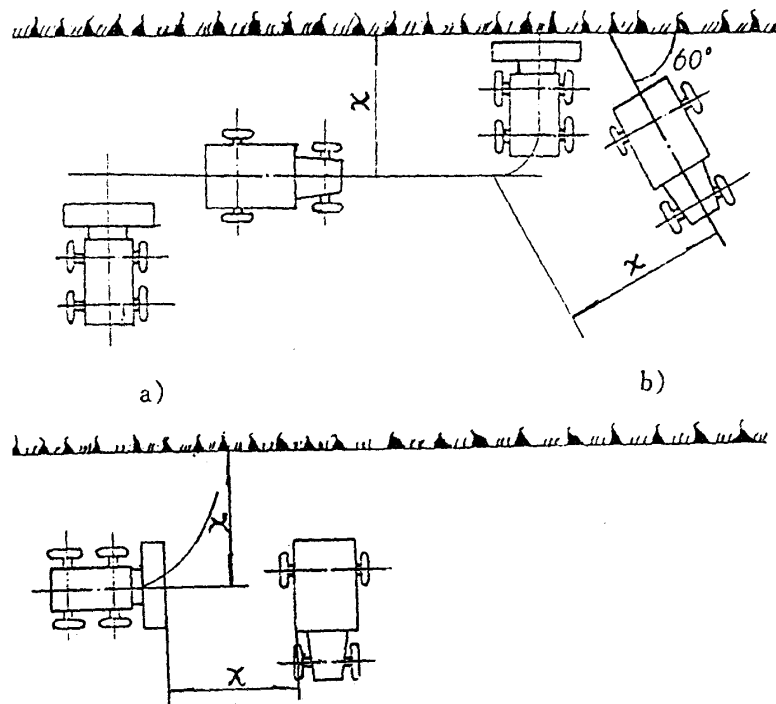

Fig.2-10 Working Patterns
2.4.4.1 Refers to Fig.2-10 for working patterns.